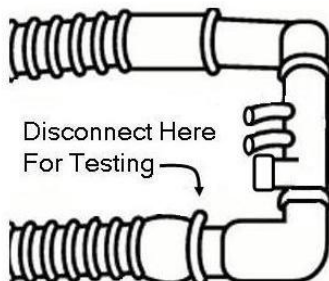

Figure 3 Disconnect Point for Calibration
3. Disconnect the Nasal CPAP device from the patient and disconnect the expiratory limb of the circuit at the patient wye. (See Figure 3)